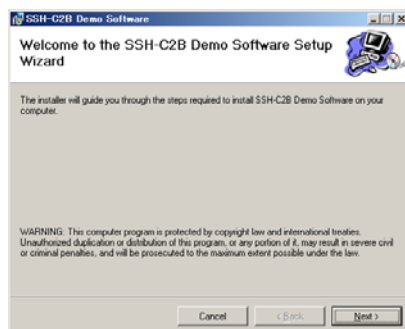

Fig.5-1
2. Click [Next>] on the displayed window (Fig.5-1).